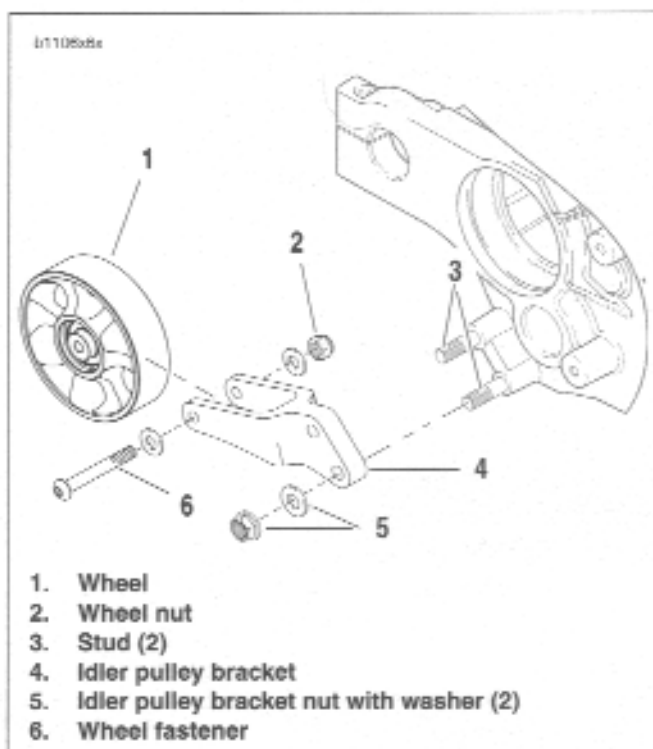

Figure 6-88. Idler Pulley Assembly
4. See Figure 6-88. Remove both bracket nuts with washers (5) attaching idler pulley (4) to studs (3).
6. Inspect pulley by spinning wheel (1) and checking for excessive wheel bearing wear.
7. If pulley wheel needs replacement, remove fastener (6) and nut (3) from idler pulley bracket (2) and discard. Replace with new pulley wheel (1).
11. See Figure 6-88. Slide idler pulley assembly on to studs (4), install nuts and washers (5) and tighten to 33-35 ft-lbs (44.74-47.45 Nm).